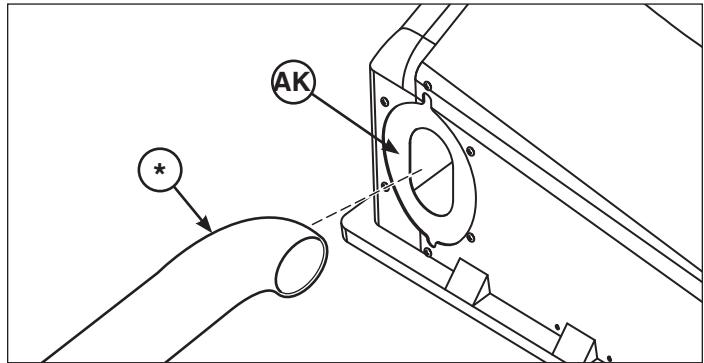

Figure 31
1. Slide the discharge end of tube assembly (*, Figure 31) through the cover seal (**AK**). This may require some rotating of the discharge end of tube assembly.